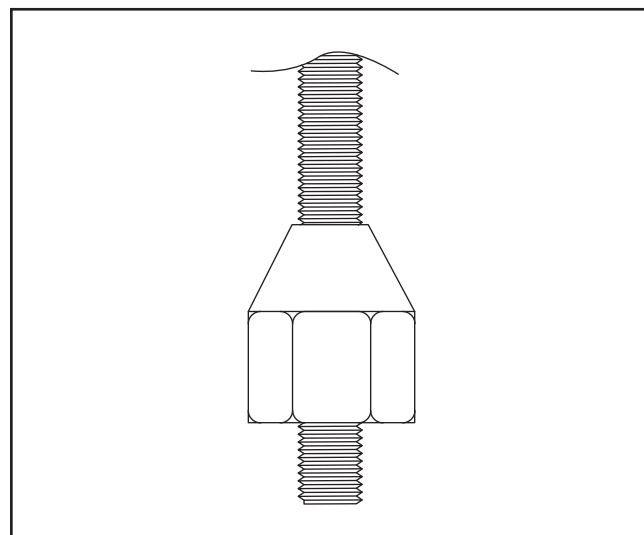

Figure 18. Nut threaded onto drawbar.
4. Thread the drawbar nut, tapered side up, onto the bottom of the drawbar (see **Figure 18**).